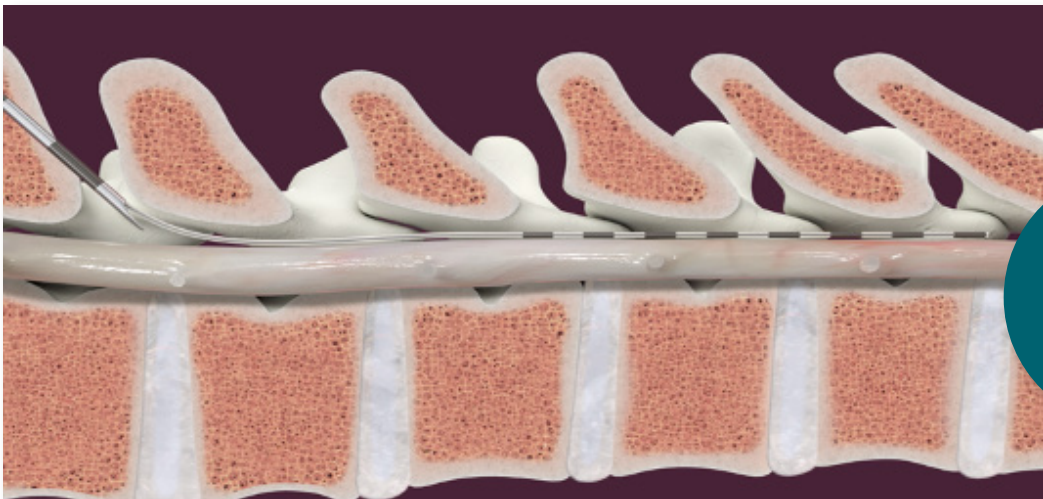

FIGURE 3
- + **STEP 6:** Slowly insert the device through the needle and advance to the location that has the proposed optimal starting location (see Figure 3). Use fluoroscopy to visualize the location (anterior-posterior and lateral views).